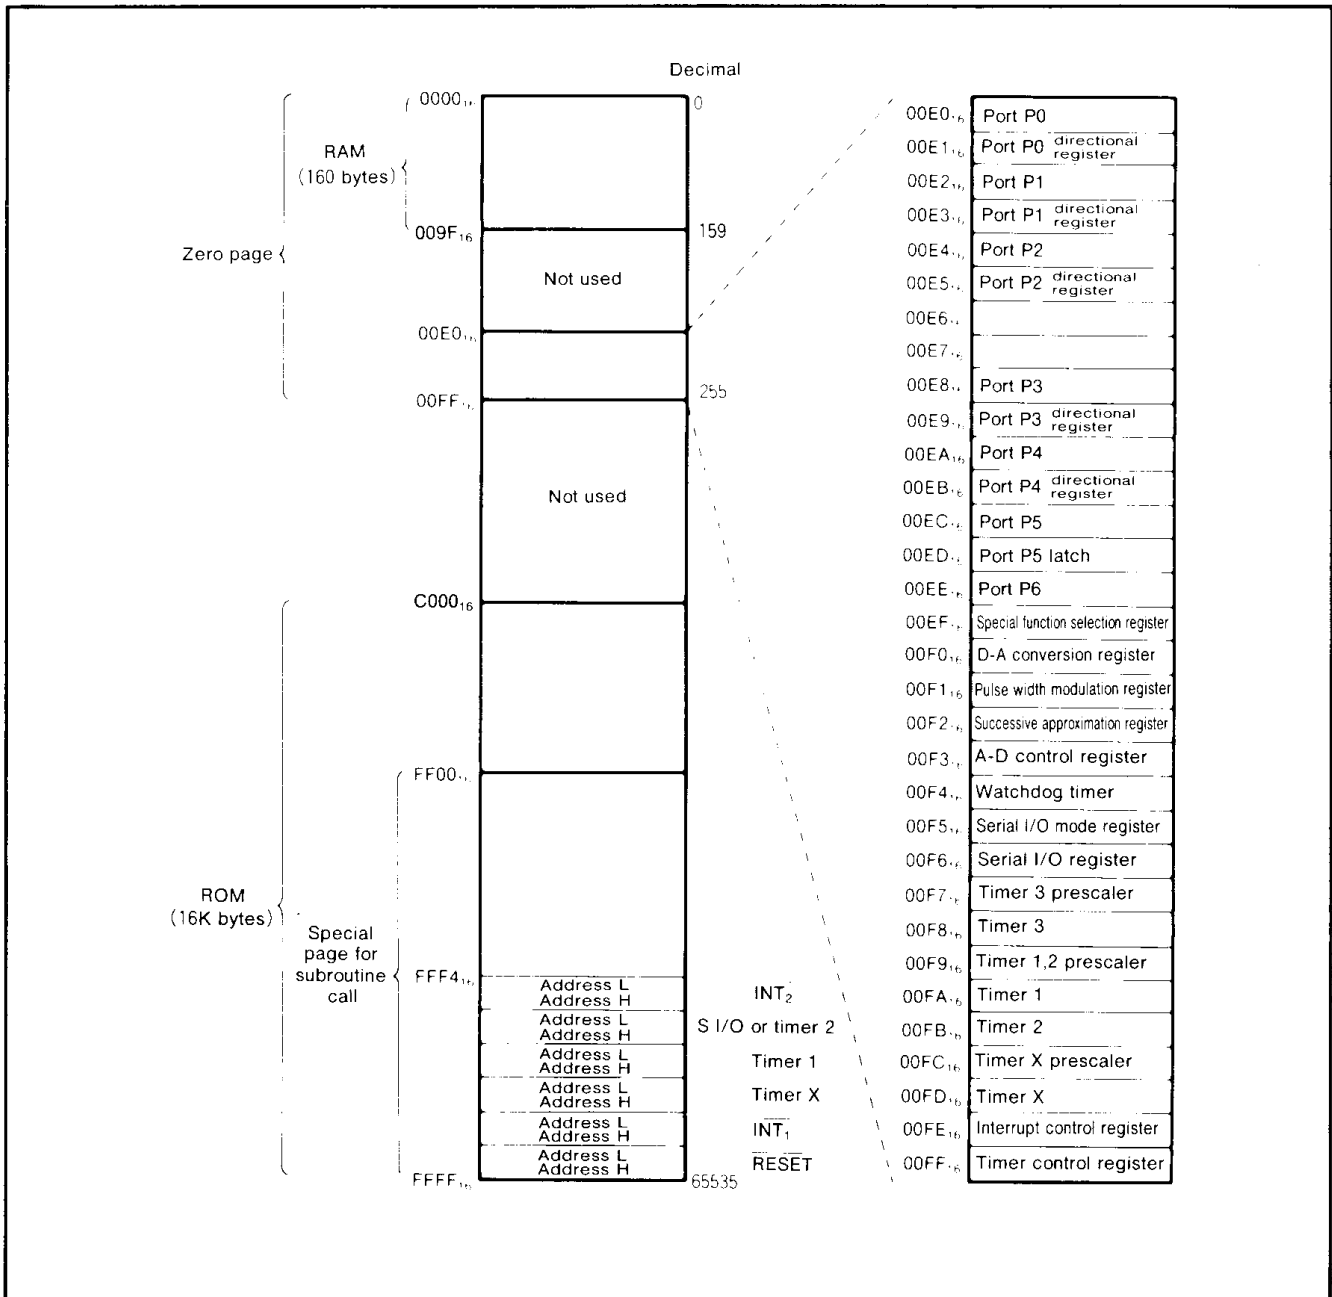

Fig.1 Memory map
The memory map is shown in Figure 1. The M50964-PGYS is mounted an EPROM instead of an internal ROM. The address of an EPROM is C00016 ~ FFFF16, and this memory size is 16384 bytes. Other than these, the M50964-PGYS has the same functions as the M50964-XXXSP/M50963-XXXSP have.
- (1) In case of the M5L2764K or the M5L27128K EPROM use the following areas (refer to Figure 1):